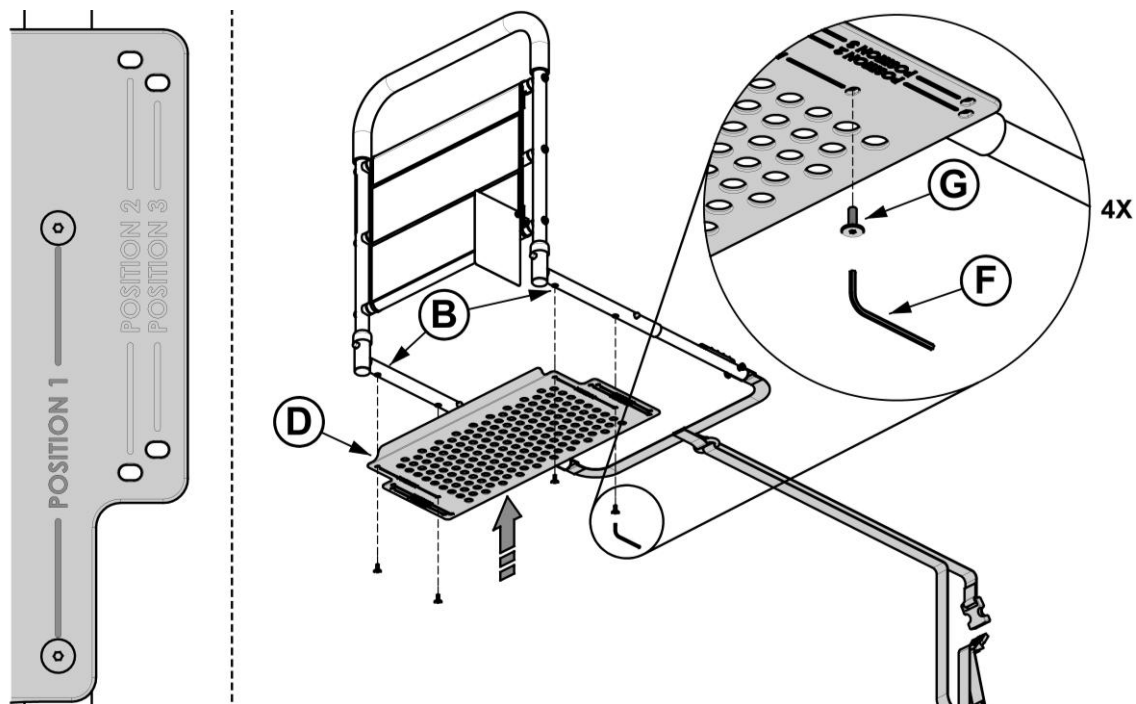

FIGURE 4
- Secure Safety Guard **D** to Base Connectors **B** with Bolts **G** (4x) using Tool **F** as shown in *FIGURE 4*. **Note:** Use the holes in Safety Guard **D** marked as POSITION 1.